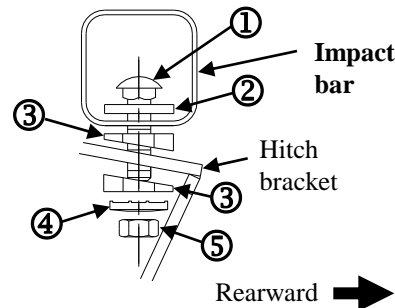

Figure 2.
①	Qty. (2)	Carriage bolt 1/2-13 X 2.25 GR5	⑤	Qty. (2)	Hex nut 1/2-13
②	Qty. (2)	Spacer	⑥	Qty. (2)	Hex bolt 1/2-13 X 1.50 GR5
③	Qty. (4)	Bevel spacer	⑦	Qty. (2)	Handle nut
④	Qty. (4)	Conical washer	⑧	Qty. (2)	Pull wire
- Lower muffler and tailpipe by removing all rubber isolators, behind rear axle. There will be (2) or (3) depending on vehicle. Be careful not to allow mufflers to fall under their own weight. Note: Spraying a lubricant or soapy water on the metal hanger rod and the rubber isolator helps removal.
- Tape spacers in place to hitch before raising hitch into position. Orient spacer as shown. See Figure 2.